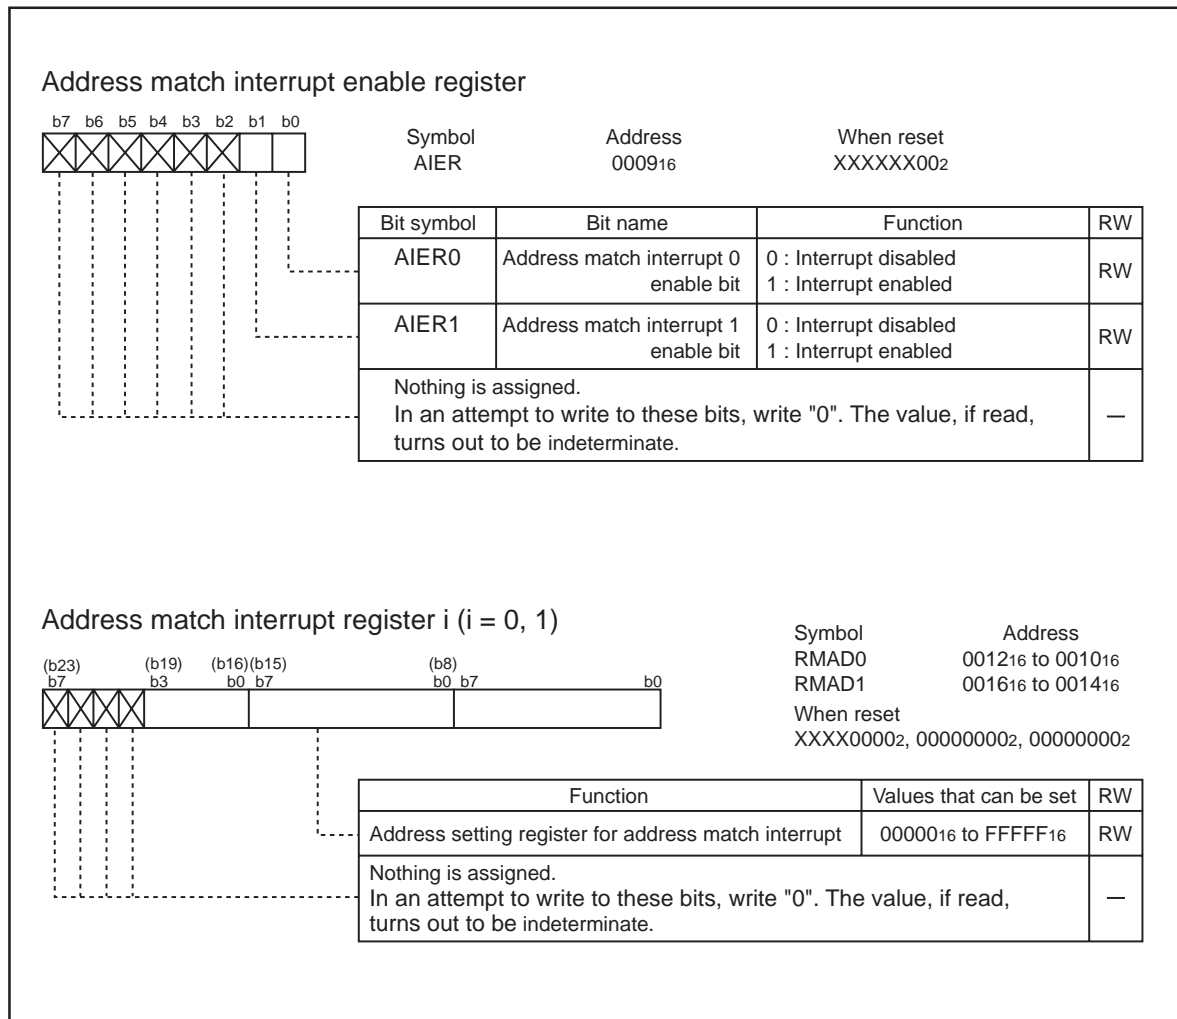

Figure 10.16 Address match interrupt-related registers
An address match interrupt is generated immediately before the instruction at the address indicated by the address match interrupt register is executed. Two address match interrupts can be set, each of which can be enabled and disabled by an address match interrupt enable bit. Address match interrupts are not affected by the interrupt enable flag (I flag) and processor interrupt priority level (IPL). The value of the program counter (PC) for an address match interrupt varies depending on the instruction being executed. Figure 10.16 shows the address match interrupt-related registers.